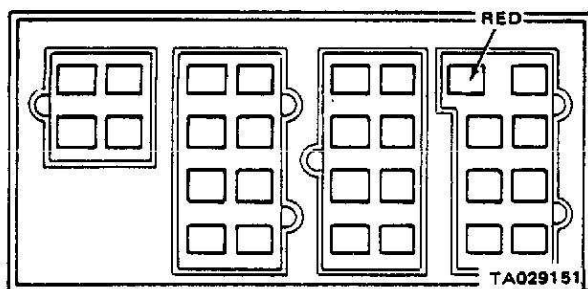

Figure 2-43. Bulkhead Connector (Red Wire).
(1) If battery voltage is present, go on to *l*, below.
(2) If battery voltage is not present, replace the fusible link.
l. Check for battery voltage where the red wire goes into the bulkhead connector on the firewall (figure 2-43). Push the red test lead in from the back of the connector.